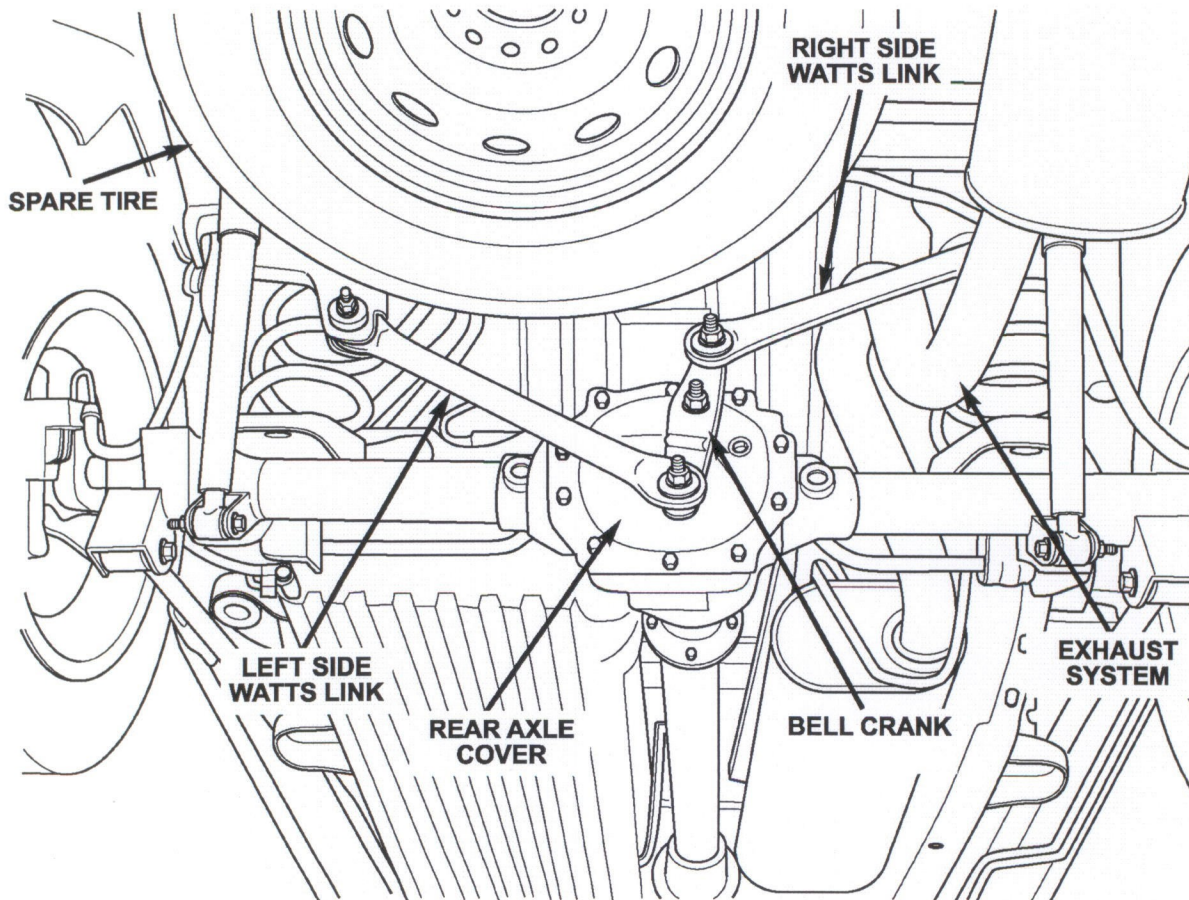

Figure 1
2. Remove the upper nut and bolt to the left (driver) side watts link at the frame (Figure 1).
3. Remove the lower nut to the left side watts link at the bell crank (Figure 1).
6. Install the left side watts link nut and bolt at the frame (Figure 1).